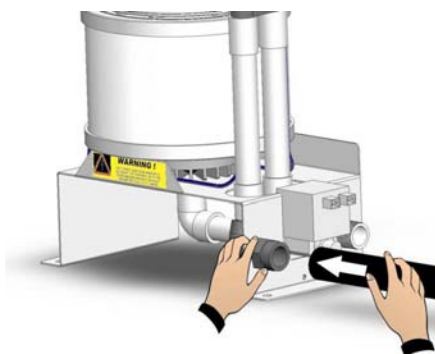

Fig. 18
3. Connect the water discharge tube to the 25 mm diameter sleeve, fixing it with the provided strap (fig. 18 and 19).